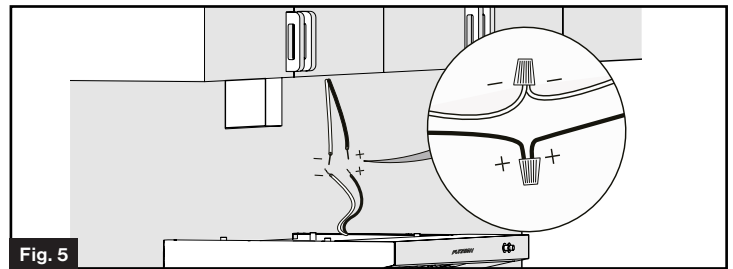

Fig. 5
5. Connect the vent hood white wire negative (-) to the incoming power supply negative (-) wire and the vent hood black wire positive (+) to the incoming power supply positive (+) wire. (Fig 5)